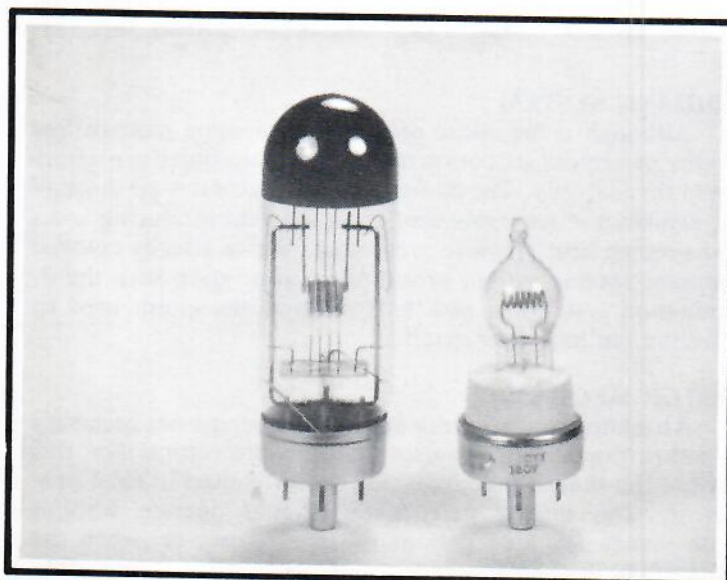

FIGURE 7
- A halogen lamp of the same brightness is often 2/3 to 1/2 the size of a conventional projection lamp, Fig. 7.